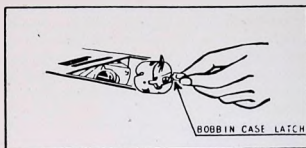

Fig. 1. To Remove Bobbin Case and Bobbin
Turn the hand wheel (D) toward you until the take-up lever (T) is at its highest point. Raise hinged bobbin case cover (O). To remove the bobbin case, open the latch with the forefinger and pull latch toward you (see Fig. 1). Now use thumb and forefinger and pull the bobbin case out toward you. While the latch is held open, the bobbin is retained in its case. On releasing the latch and turning the case downward, the bobbin will drop out.